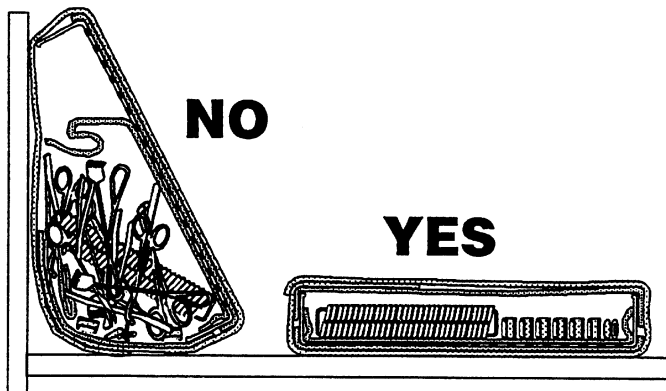

Figure 17.
- b. Surgical instrument trays should sit flat on the shelf to maintain even instrument distribution and facilitate proper drainage. Standing sets on edge permits moisture to collect at the standing edge (Figure 17).